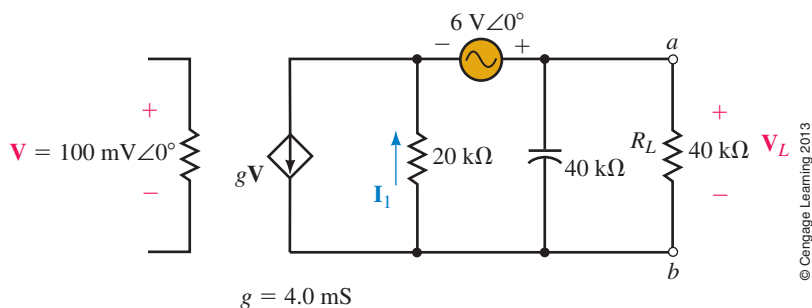

FIGURE 20-74
13. Use superposition to find the current I_1 in the circuit of Figure 20-74.
37. a. Find the Thévenin equivalent circuit external to the load impedance in Figure 20-74.